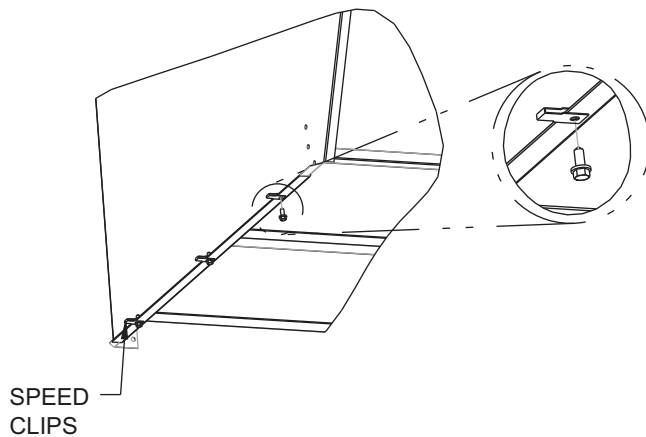

Fig. 35 — Bottom Filters Installed with Flange Pointing Down
11. Attach speed clips (provided) to hood side panels. Engagement section of clip faces up and towards the outside of the hood side panels. Attach mounting angles to hood with gasketed screws provided. See Fig. 35.